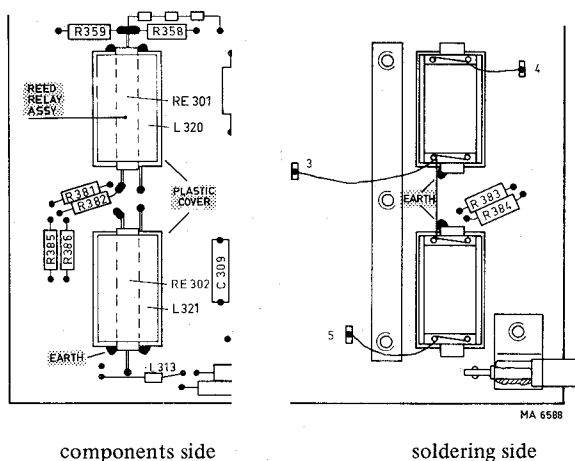

Fig. VIII-5. Removing reed-relay coils L320, L321
E. REPLACING REED RELAYS RE301 and RE302 (Fig. VIII-5)